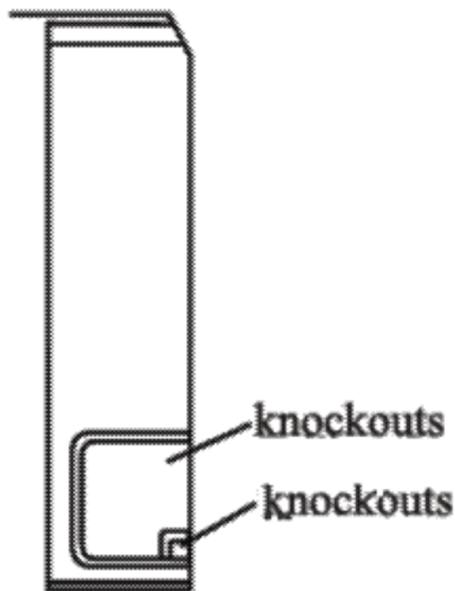
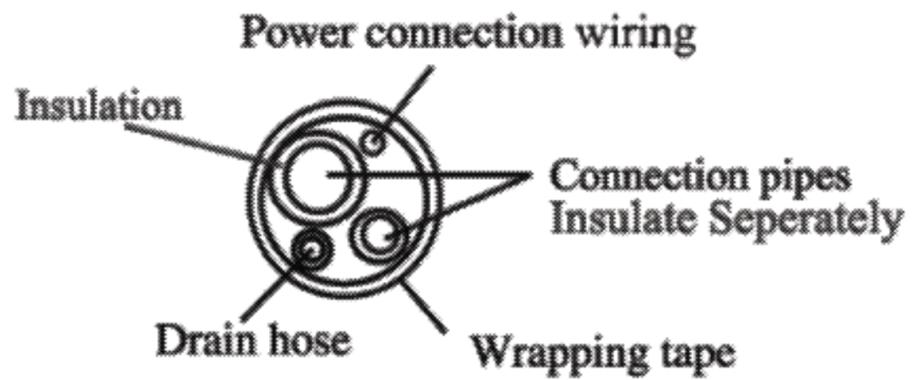

Fig.5
Fig.6
1. When routing the piping and wiring from the left or right side of the indoor unit, cut off the knockouts from the chassis in necessary (shown in Fig.5).
- ① Cut off knockout 1 when only power cord is routed.
- ② Cut off knockouts 1 and 2 when connect pipe and power cord are routed.
2. Wrap the piping and wiring and pull them through the cut-off knockouts hole (shown in Fig. 6).